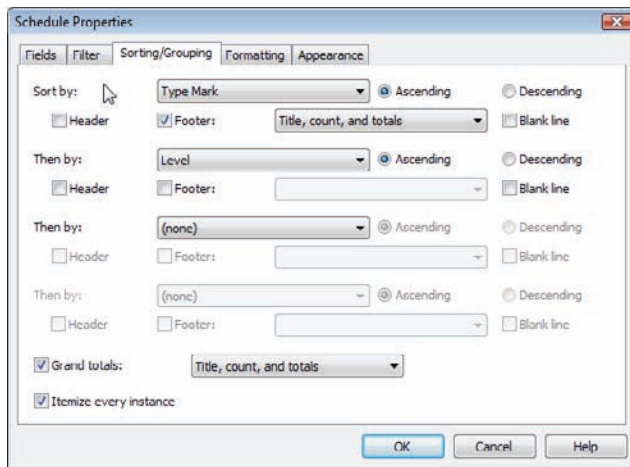

FIGURE 11.23 Specifying the settings for your window schedule
4. Go to the Sorting/Grouping tab, as shown in Figure 11.23.
10. Select the Itemize Every Instance option. (It should be checked by default; see Figure 11.23.)